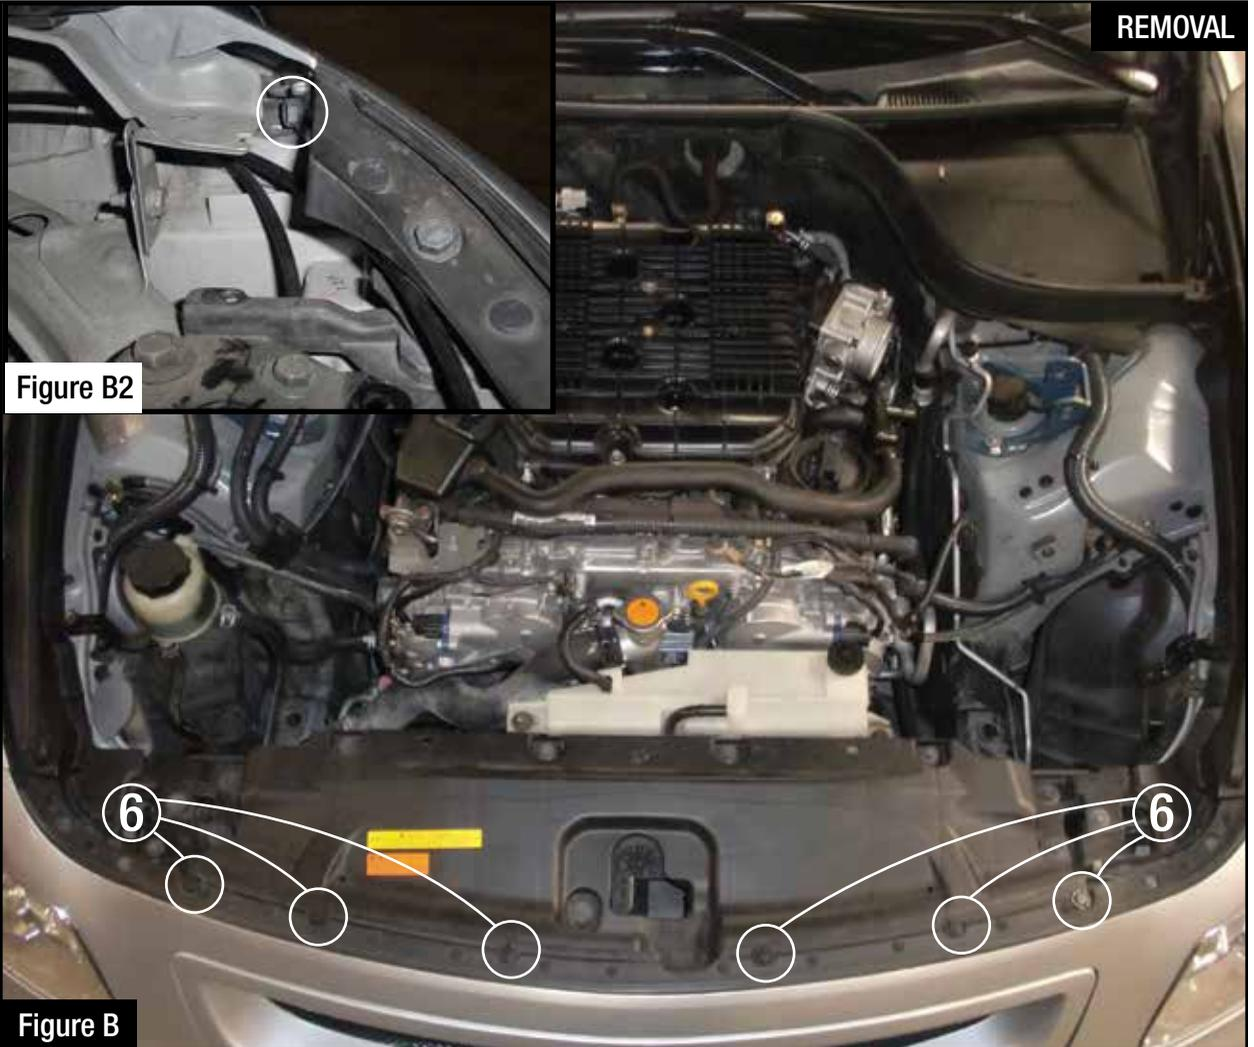

Figure B2
Step 8: Remove the 10mm bolts on the inside of the fenders. (Fig.B2)